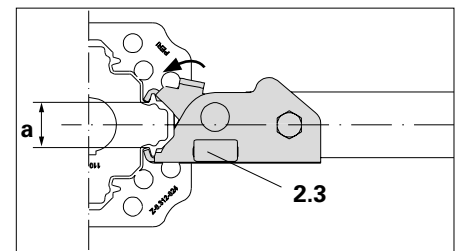

Fig. A2.05
2. Engage wedge connection in the profile grooves of the MP Tubes. (Fig. A2.05)
- The frame is mounted on the prop. (Fig. A2.05)
- For a tight connection to the outer or inner tube with jaw opening variant "a", two wedge courses are integrated in the wedge (2.3) itself (Fig. A2.05 Jaw opening "a")